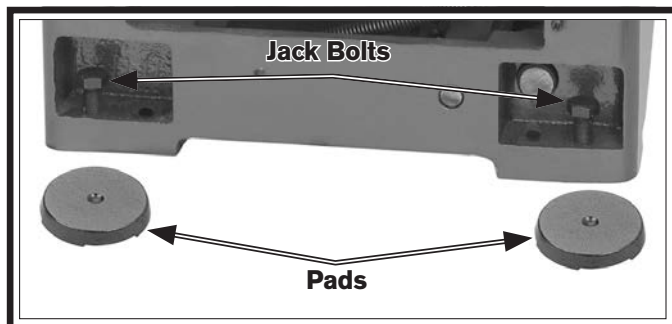

Figure 16. Leveling pads and screws.
- If using the included leveling pads (see **Figure 16**), place them under the six leveling jack bolt locations, then adjust the bolts to level the lathe.